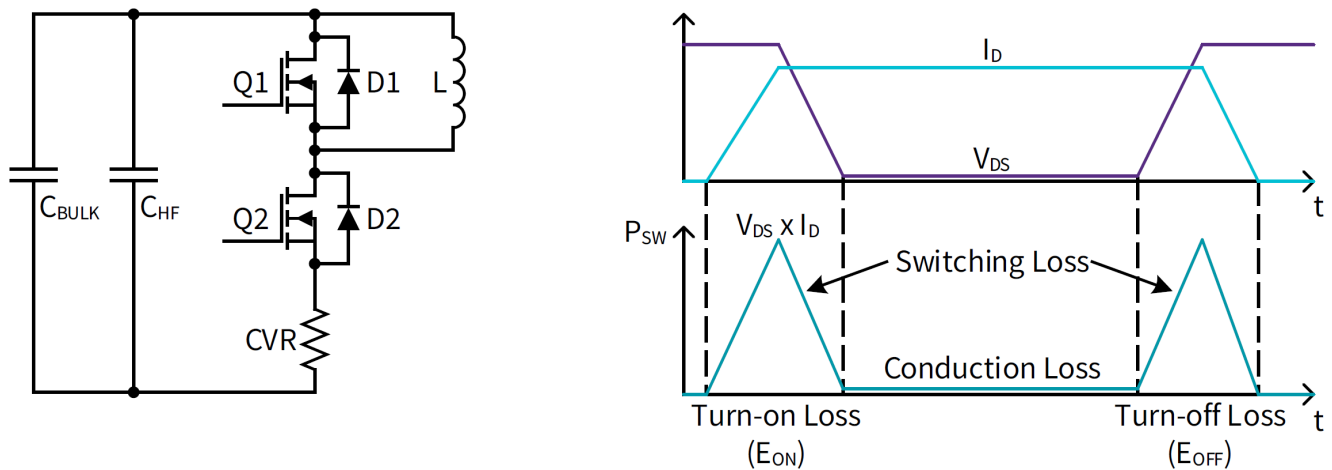
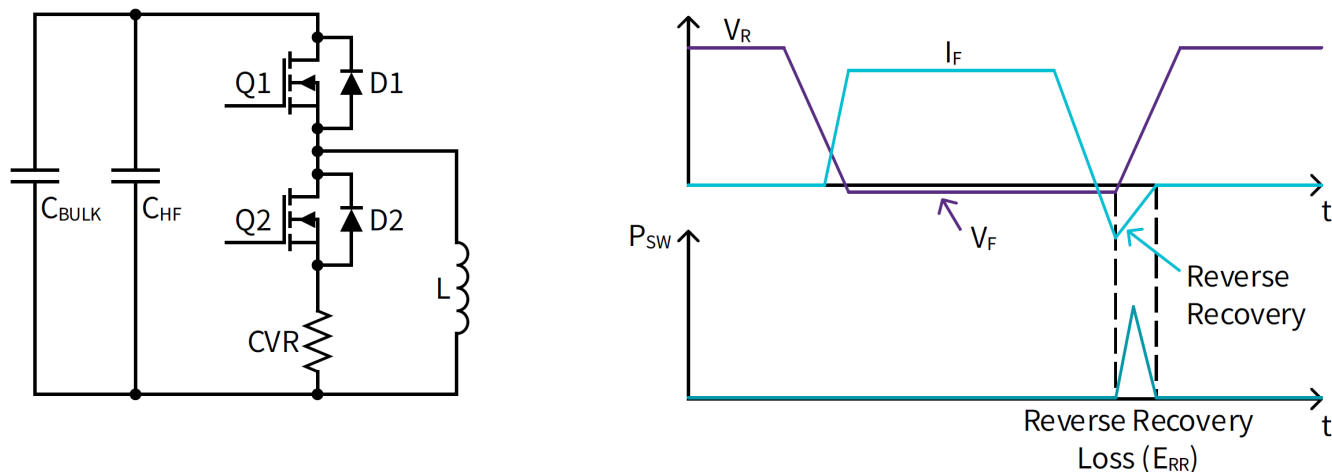

FIGURE 2: CIL TEST FIXTURE USED TO MEASURE THE SWITCHING LOSS OF MOSFET Q2 (LOW-SIDE)
FIGURE 3: CIL TEST FIXTURE USED TO MEASURE THE SWITCHING LOSS OF ANTIPARALLEL DIODE D2¹
There are two types of switching events: actively switched (MOSFET) and forced commutation (antiparallel diode). The test fixtures to measure both events are given below in Figure 2 and Figure 3, respectively. Q1 and Q2 represent the respective switch positions of the Wolfspeed XM half-bridge power module. Likewise, D1 and D2 represent the antiparallel diodes of each switch position (the intrinsic body diode or external Schottky Diode depending on the module variant). For both tests, film capacitors (C_{BULK}) are used for bulk energy storage to provide the needed energy transfer to the inductor (L) for the switching event, while high-frequency capacitors (CHF) are used to provide a low-inductance switching loop. For MOSFET switching measurements in Figure 2, the inductor is connected across the upper switch position of the module from the midpoint to the positive bus rail while Q1 is held off and Q2 is pulsed; for body diode switching measurements in Figure 3, the inductor is connected across the lower switch position of the module to the negative bus rail while Q1 is pulsed and Q2 is held off.